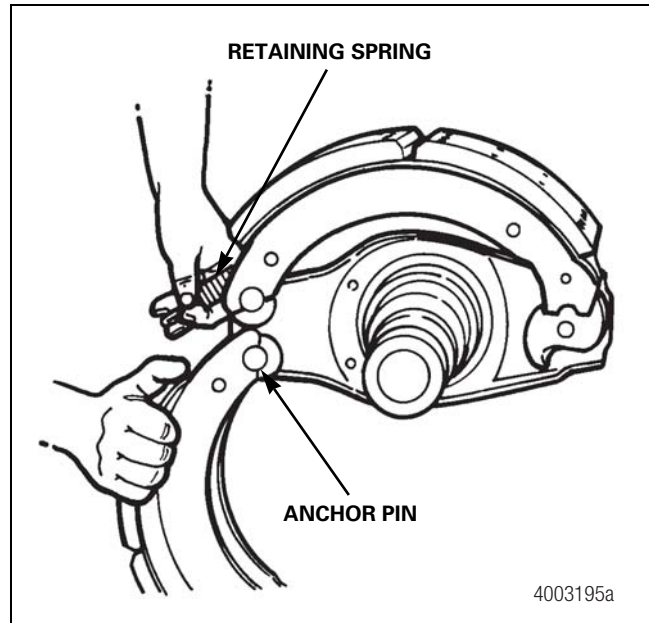

Figure 5.3
5. Lubricate anchor pins with Meritor specification 0-616-A grease where the brake shoes touch them. Place the upper shoe in position on the top anchor pin. Hold the lower brake shoe on the bottom anchor pin and install two new brake shoe retaining springs. Figure 5.3.